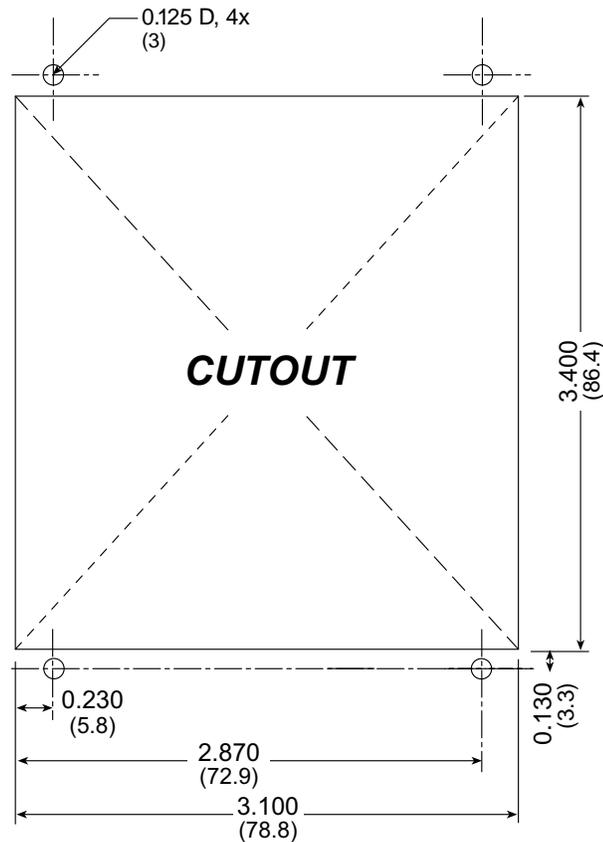

Figure D-7. Recommended Cutout Dimensions
1. Cut mounting holes in the mounting panel in accordance with the recommended dimensions in Figure D-7, then use the bezel faceplate to mount the LCD/keypad module onto the panel.